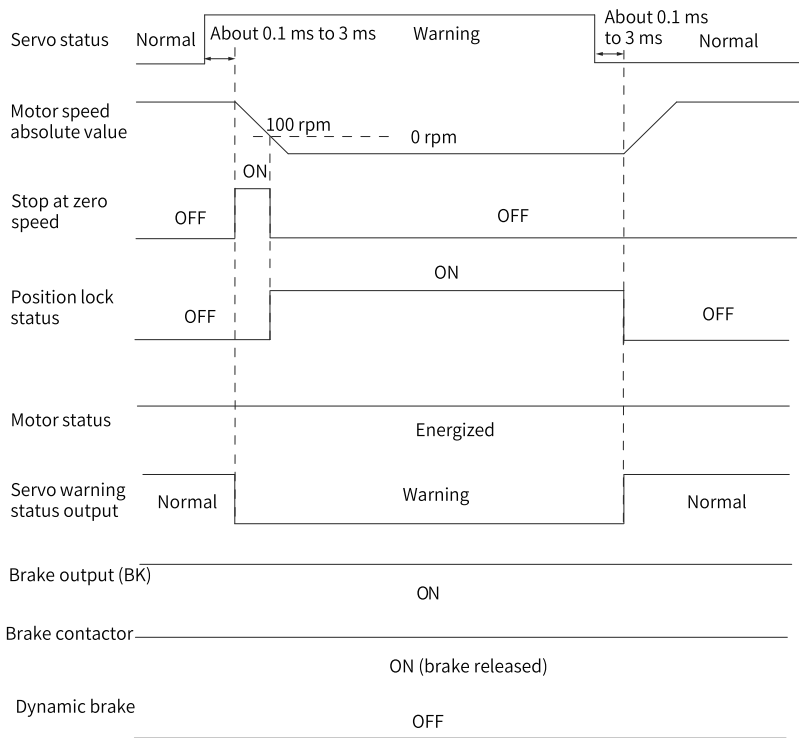

Figure 2-20 Sequence for warnings that cause stop
- When a No. 3 warning occurs on the servo drive, such as E900.0 (DI emergency braking), E950.0 (Positive limit switch warning), and E952.0 (Negative limit switch warning), the servo drive stops according to "Figure 2-20 Sequence for warnings that cause stop" on page 67.